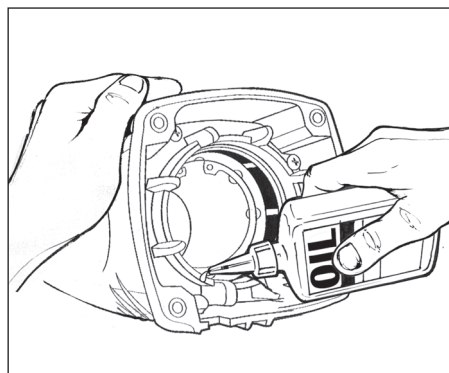

Figure 16
7. Tilt the motor assembly upwards and apply 3 or 4 drops of oil evenly spaced around the top of the combustion chamber. Spread the oil evenly using your fingertip (see Figure 16).